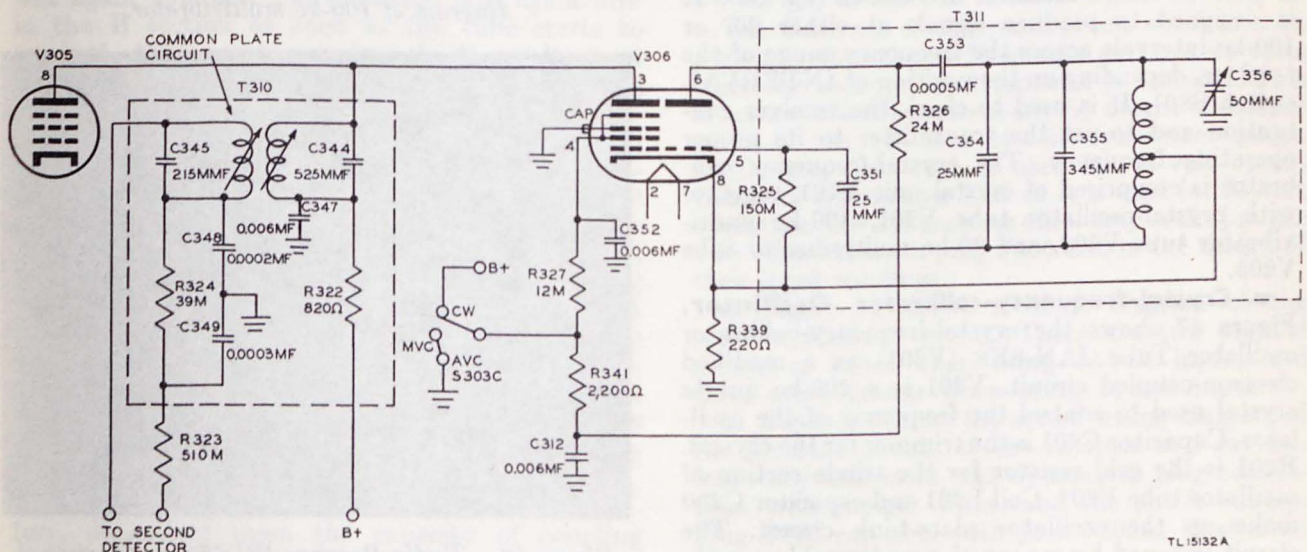

Figure 46. Radio Receiver BC-652-A, functional diagram of beat-frequency oscillator.
83. BEAT-FREQUENCY OSCILLATOR (fig. 46).